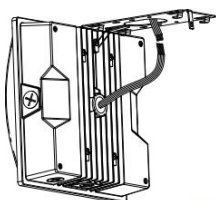

Figure 6
Step 4:Hang the fixture by the plate (figure6), then connect to local power supply with necessary wiring protection .